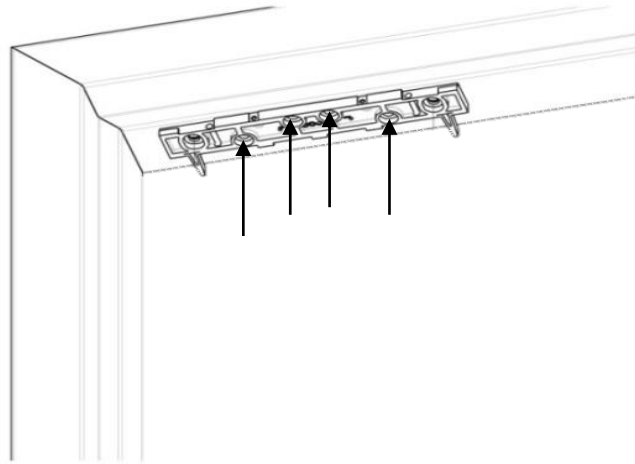

Figure 26. Installing Final Mounting Screws
6. Drill pilot holes as necessary and install four (4) final mounting screws, and TIGHTEN the mounting screws (see Figure 26, "Installing Final Mounting Screws"). For METAL DOORS Use #12 x 1-1/2" Screws. For WOOD DOORS use #14 x 3" screws.